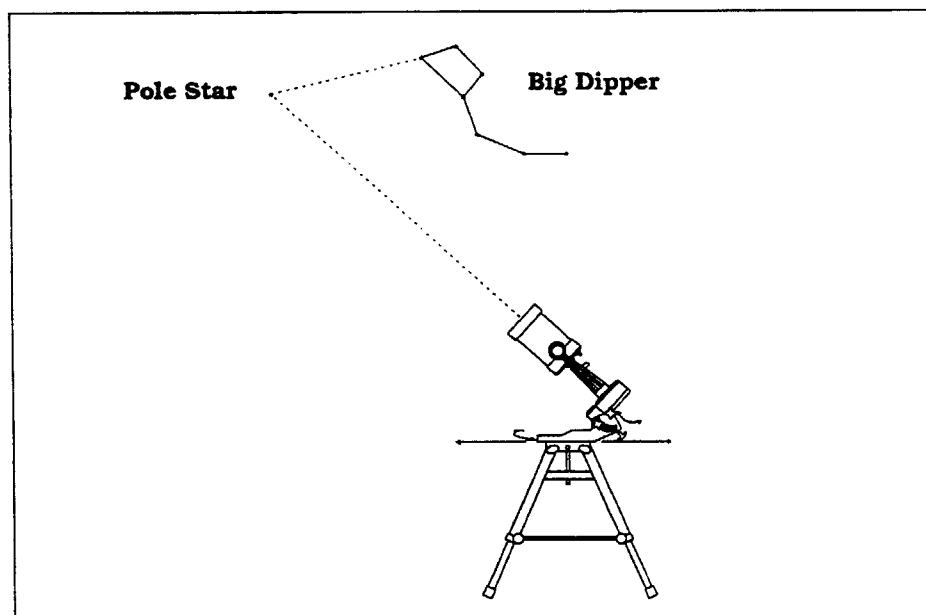

Figure 8-7
3. Move the mount in altitude and/or azimuth until Polaris is in the field of view of the finder. Rough adjustments in azimuth can be made by moving the tripod (see figure 8-7).